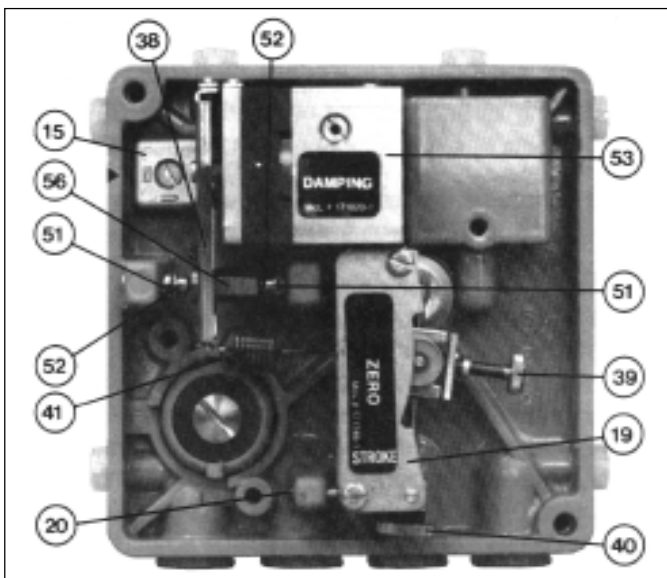

Figure 19
A. Adjustment of the Positioner: (See Figure 19)